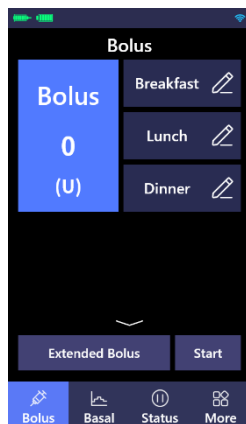

Figure 7.2
(1) Click the "Bolus" at the bottom of the main interface to open the bolus interface (as shown in Figure 7.2).
(3) When the value of bolus is greater than 0, the "Start" button (as shown in Figure 7.2) will turn orange. Click "Start" to open the confirmation interface, then click "ACT" for the